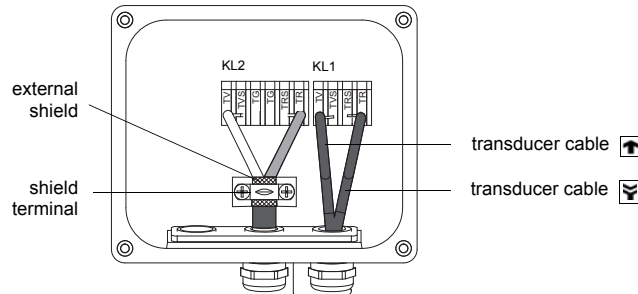

Fig. 5.9: Junction box JBT3
- Prepare the extension cable with the cable gland. Cut the external shield and brush it back (see Fig. 5.9).
- Connect the leads to the terminals of the junction box (see Fig. 5.9 and Tab. 5.5).
- Connect the leads to the terminals of the junction box (see Fig. 5.9 and Tab. 5.6).